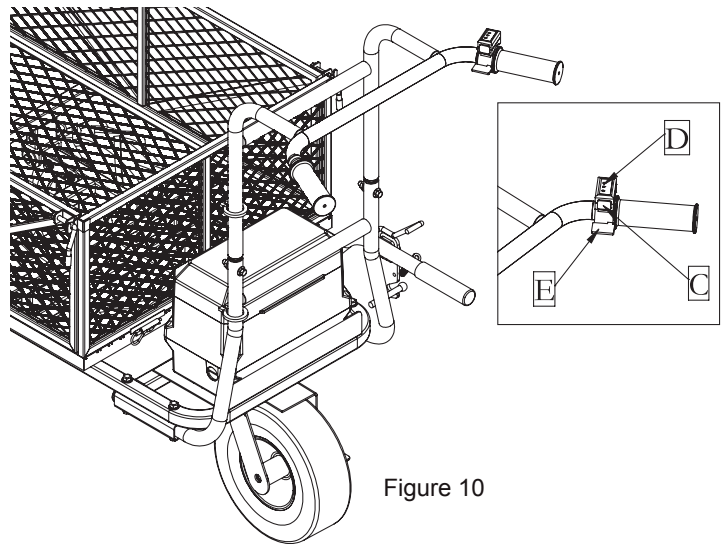

Figure 10
2. Press the start switch (C) on the right handle, then the battery indicator (D) will light up with all 3 LED lights and machine is ready for working. Press and hold the Switch trigger (E) to start working. By pressing less or more to control the moving speed. (See Figure 10)